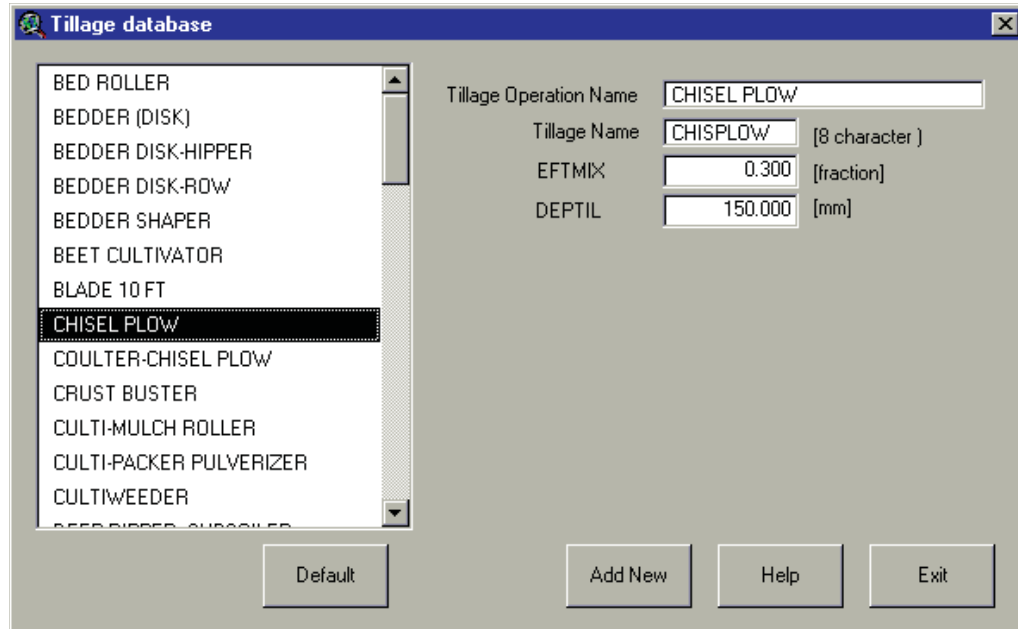

Figure 14.62
- b. The data for the tillage operation will be displayed (Figure 14.62). A complete description of the parameters is provided in the *Soil and Water Assessment Tool User's Manual, Version 2000, Chapter 15*.